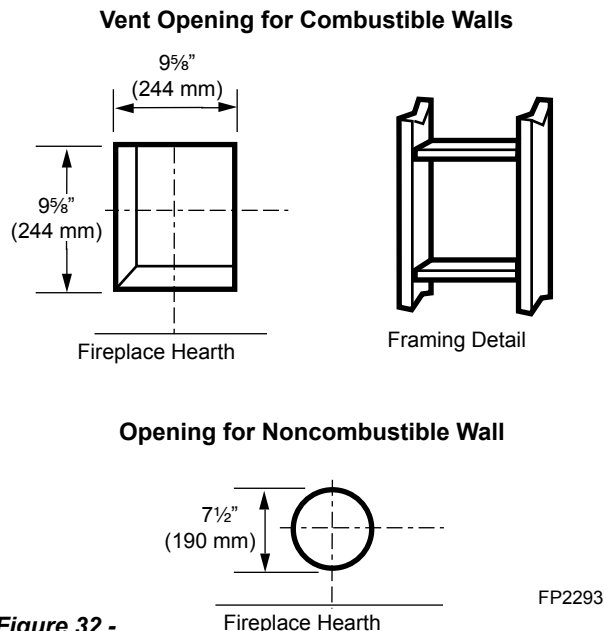

Figure 32 -
Locate vent opening on the wall. It may be necessary to first position the fireplace and measure to obtain hole location. Depending on whether the wall is combustible or noncombustible, cut opening to size. *Figure 32* (For combustible walls first frame in opening.)
Combustible Walls: Cut a 9 5/8" H x 9 5/8" W (244 x 244 mm) hole through the exterior wall and frame as shown. *Figure 32*
1. Establish vent hole through the wall. *Page 21, Figure 32*